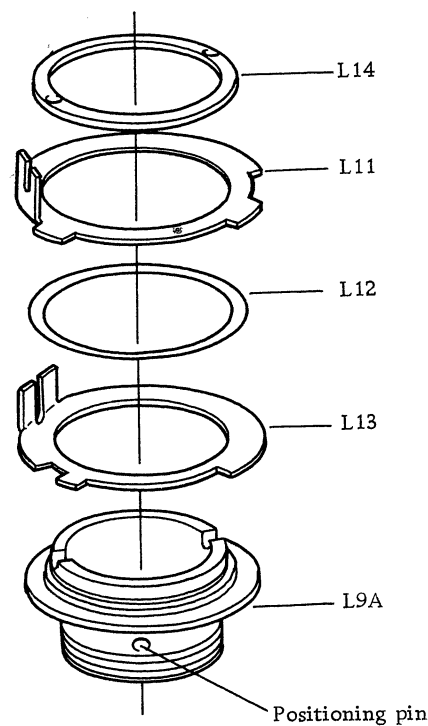

Fig. 3
- B. Remove the tightening ring (L14) with the Tool (L10-TA1), and remove the shutter set ring (L11), ring washer (L12), and release ring (L13). Fig. 3
- A. Install the set ring (L11), washer (L12), and release ring (L13) on the shutter installation seat (L9A), and tighten the tightening ring (L14) with the Tool (L10-TA1). Fig. 3
- B. When the shutter installation seat (L9A) does not operate effectively, check and correct each ring for warping, or apply Molicoat grease and smooth the operation. Fig. 3